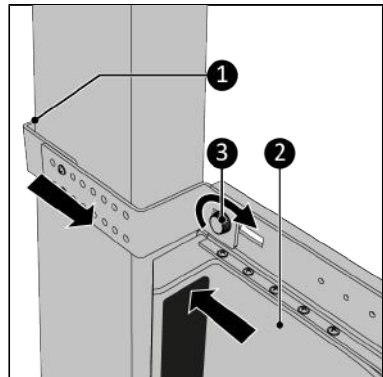

Figure 63.
- Push the Way-out firmly against the window frame (Figure 63, pos. 2).
- Pull the bracket as far towards you as possible (Figure 63, pos 1) so it clamps properly.
- Tighten the screw cap (Figure 63, pos. 3).